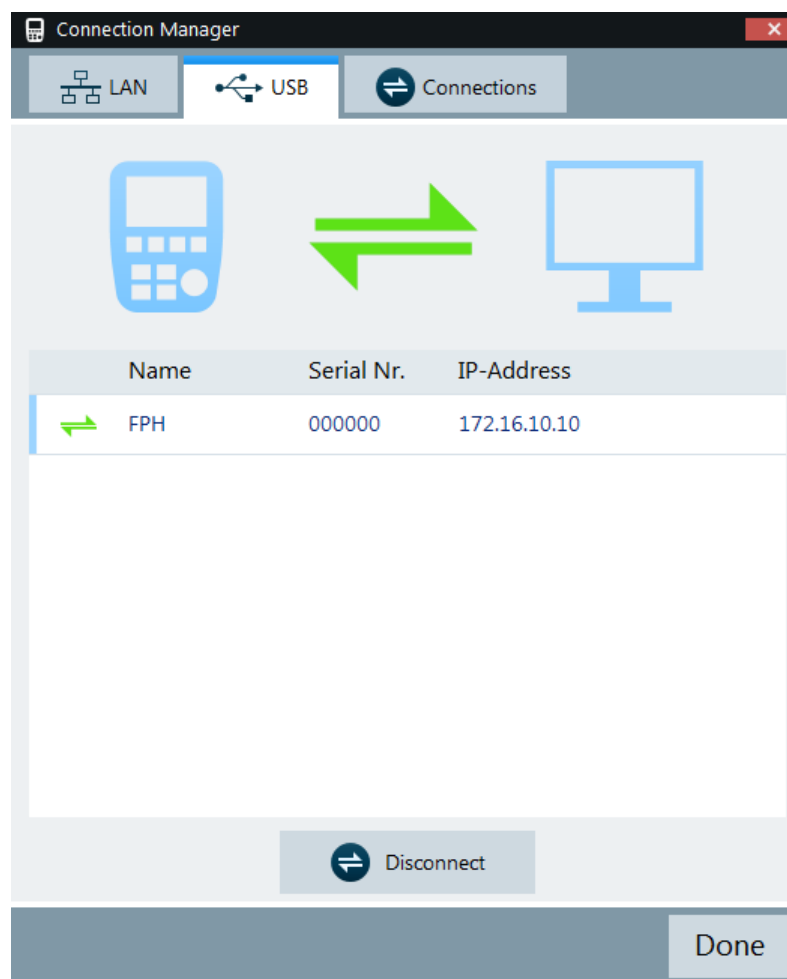

Figure 4-6: USB connection
3. There is only one USB instance in the connection manager list. See Figure 4-6. Depending on the connection status icon,   you can connect or disconnect an instrument from the connection manager list